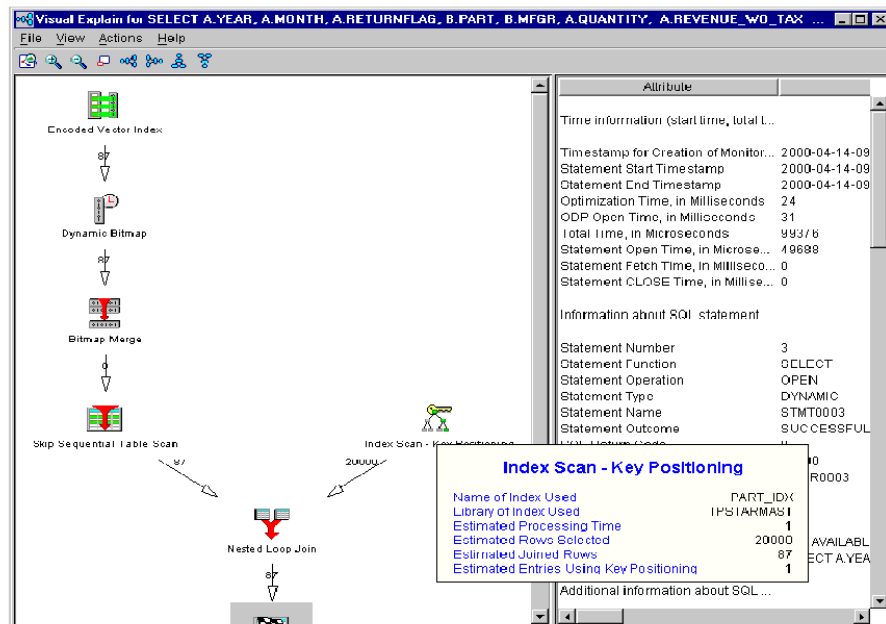

Figure 304. Visual Explain sample display
- Visual Explain: You can use Visual Explain to graphically display the implementation of your SQL statements that were run either through Run SQL Scripts or in a separate job. You can use this tool to see information about both static and dynamic SQL statements. You can also use this tool to better understand where the highest costs of your queries are taking place. Figure 304 shows an example of a Visual Explain screen.